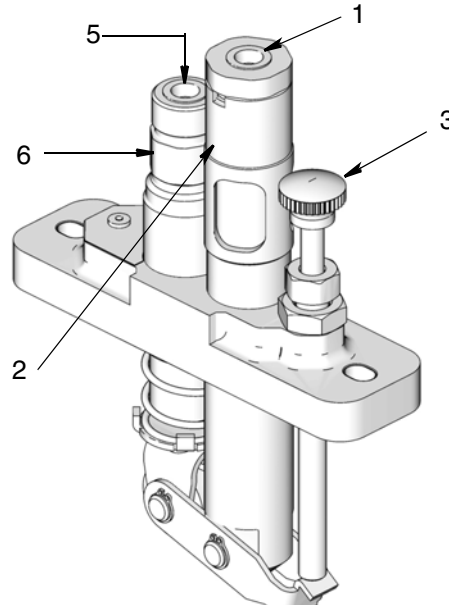

**FIG. 4**
### Suction Fed Models (FIG. 4)
1. Remove and discard the sight well plug (1) and outlet plug (5).
2. Fill the sight well (2) to the top with appropriately filtered oil.
3. Operate the hand priming assembly (3) until the oil level drops below the end of the drip tube (4) (FIG. 4).
5. Connect fill line to sight well (2), taking care to not allow any thread sealant into the sight well.
8. Continue to hand prime until oil expelled from outlet (6) is free of air.